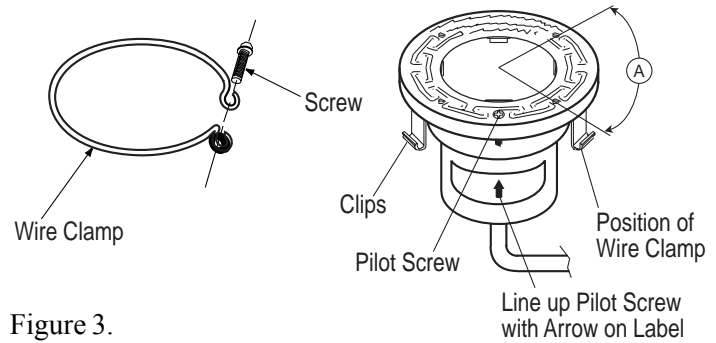

Figure 3.
- F. Reassemble the fixture. See Figure 3.
4. With the bent ends of the circular wire clamp pointing up, spread the clamp and place it in the "U" recesses of the face ring clips. Ensure that the bent ends of the clamp are located between the pair of clips as shown in Figure 3, location A. Check to see that the clamp is properly engaged with all of the clips.